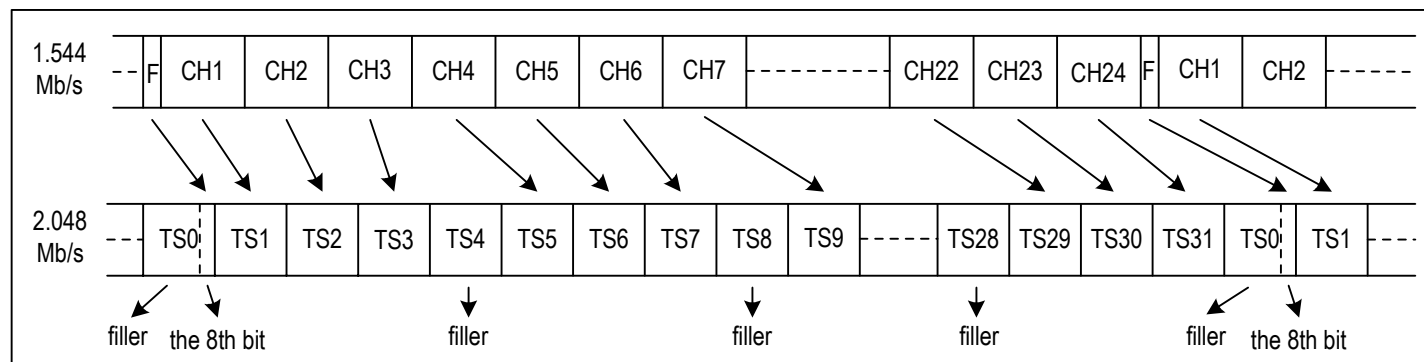

Figure 18. T1/J1 To E1 Format Mapping - One Filler Every Four Channels Mode
2. T1/J1 Mode E1 Rate per One Filler Every Four CHs (refer to Figure 18): One dummy byte is inserted on the system side before 3 bytes of Frame N from the device are converted. This process repeats 8 times and the conversion of Frame N of 1.544 Mb/s data rate to 2.048 Mb/s data rate is completed. However, the F-bit of Frame N of the 1.544 Mb/s data rate is inserted as the 8th bit of Frame N of the 2.048 Mb/s data rate. The dummy bytes are filled with all '0's and they are meaningless.